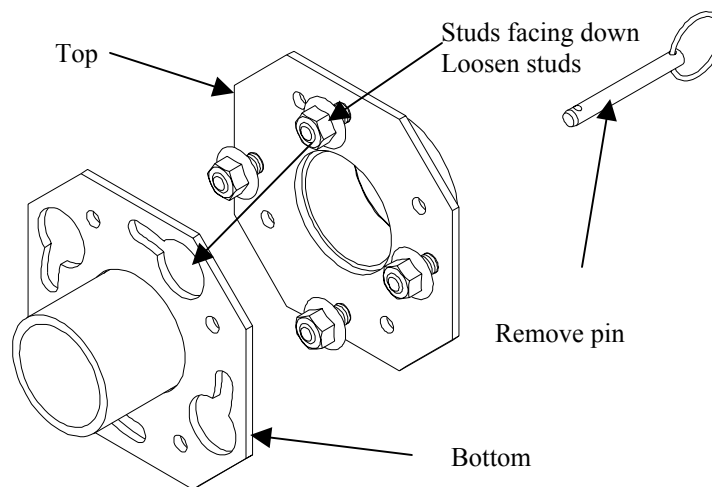

Figure 2
1. Orient the 1 1/2" NPT pipe couple plate, with four 5/16" by 7/8" studs, with studs facing down (see Figure 2).